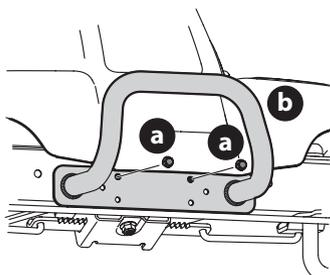

Figure 10
1. Remove the two screws (a) from the front and center of the front axle (Figure 10).
2. Position the bumper (b) over the mounting holes and secure using the screws (a) removed in Step 1 (Figure 10).